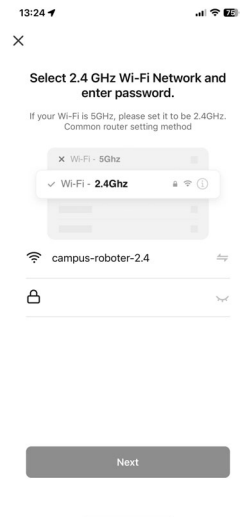

Fig. 3
- ▶ In the next step, enter the password for your WLAN network (Fig. 3) and then tap on **NEXT**.